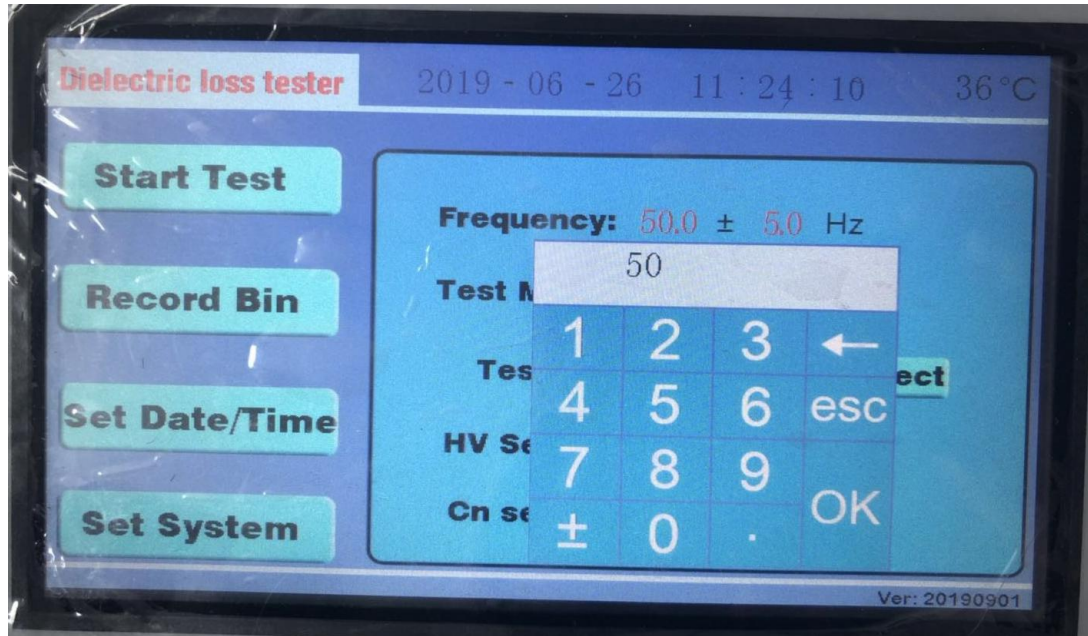

Figure 11 Frequency modification diagram
1) To test the modification of the frequency, click the "45.0±0.0Hz" scarlet letter with the stylus or finger. Display Figure 11